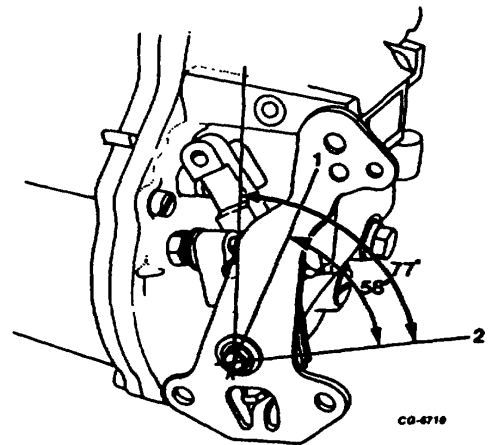

Figure 13. Location for Accelerator Lever Assembly
- b. Install accelerator lever assembly on shaft (Figure 13) and tighten securely.